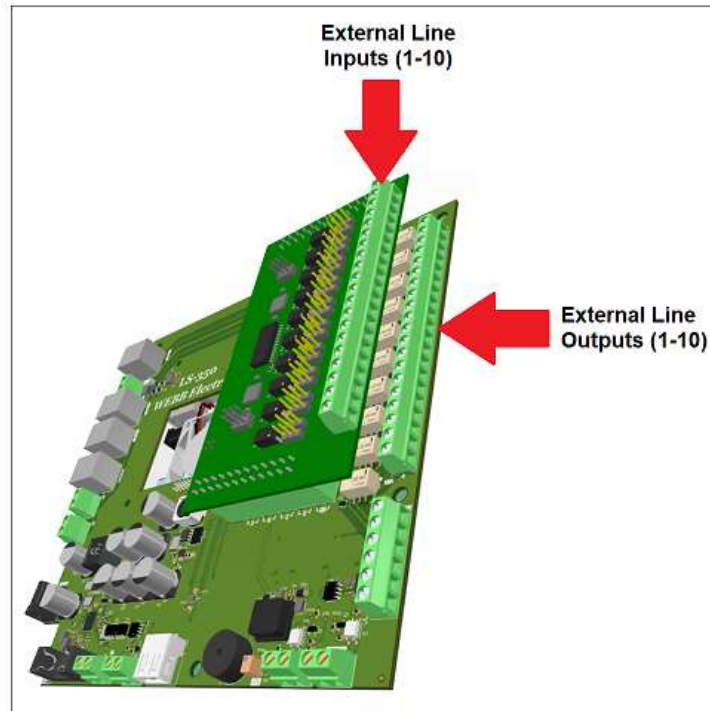

Figure 2 – Line connection
- 1.1. Once the LS-350 is in place, connect the incoming Phone Lines to the terminal blocks on upper layer on the right (External Phone Lines Inputs – see figure 2).
- 1.2. Connect elevator phones to the terminal blocks on the bottom layer on the right (External Phone Lines Outputs – see figure 2).